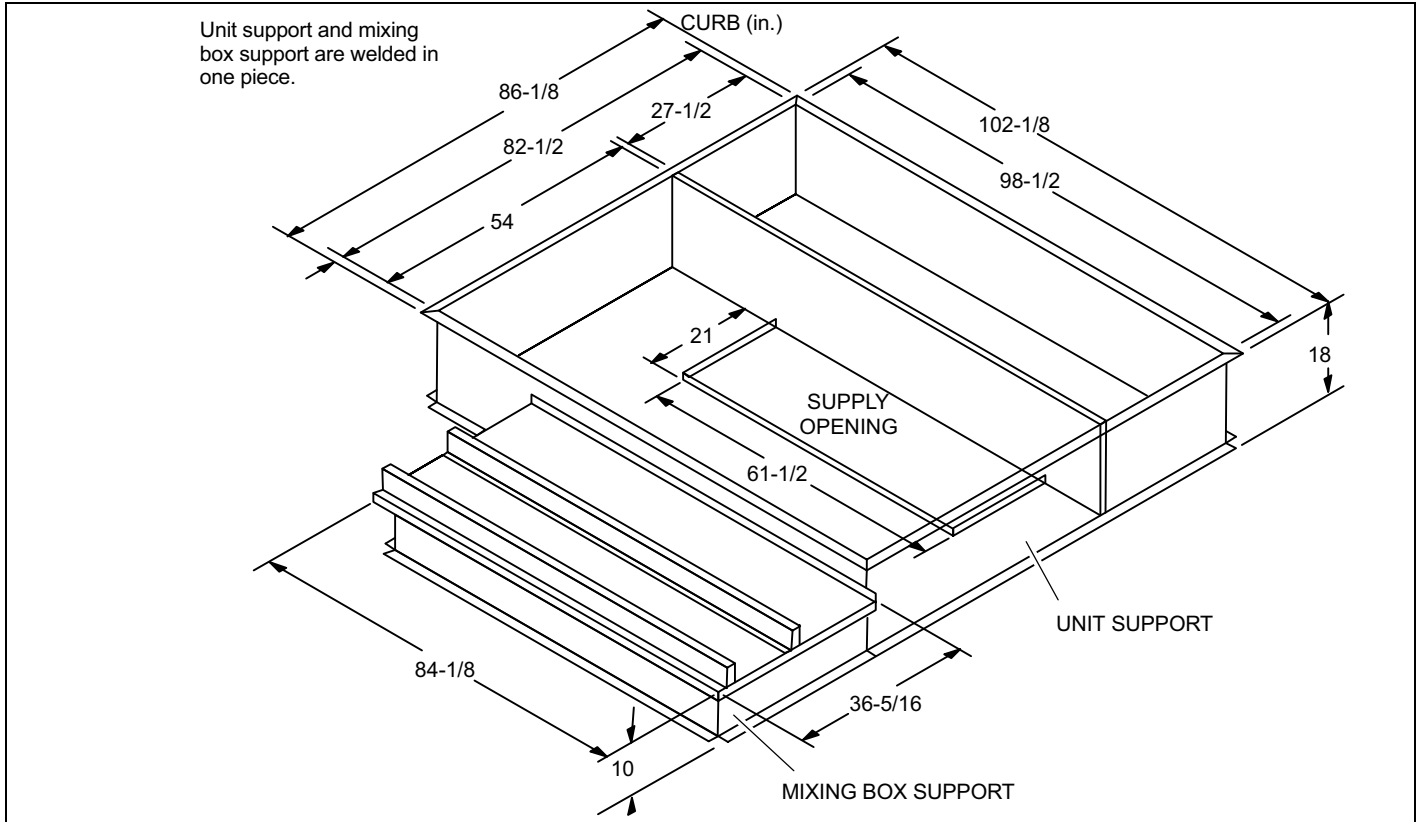

Figure 1. Set the Unit / Bypass Curb
1. Set the unit / bypass curb. Make sure the mixing box support is present and oriented in the correct position. See figure 1. These illustrations should only be used as supplements to the installation instructions provided with the curb and the unit.